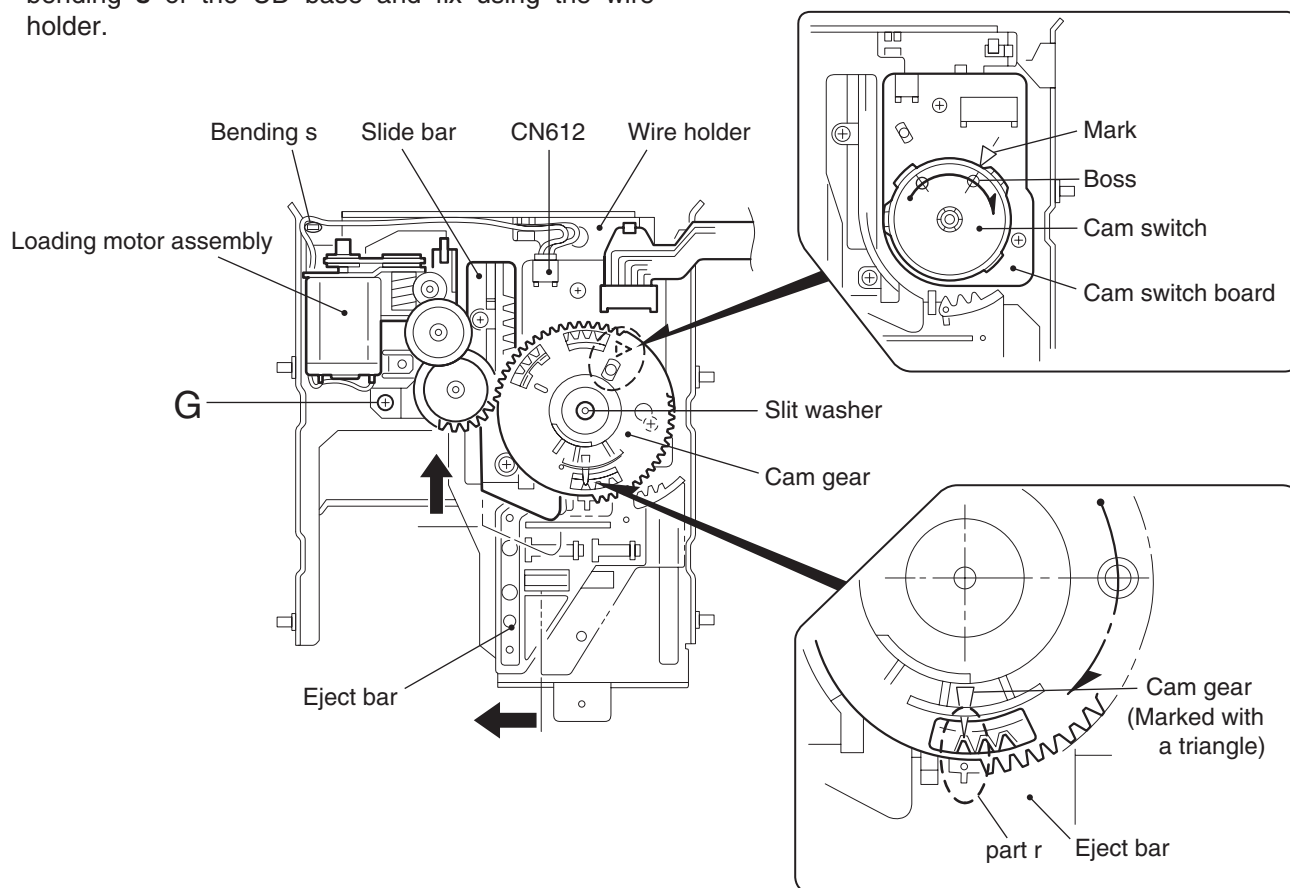

Fig.23
6. Turn the cam switch until the boss comes to the position marked with a triangle (see Fig.23).
7. Reattach the loading motor assembly using the screw **G** (see Fig.23).